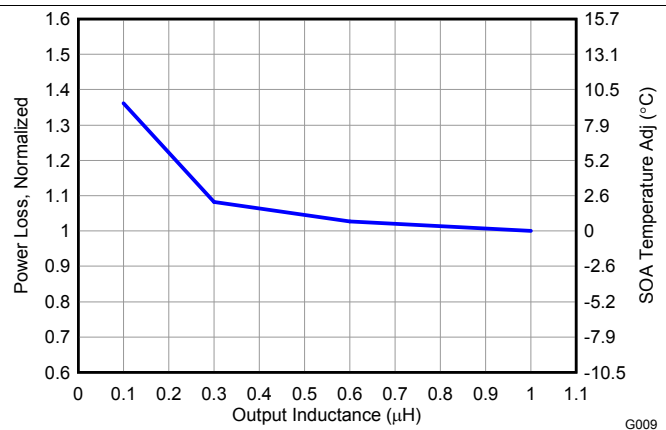

Figure 9. Normalized Power Loss vs Output Inductance
- Normalized Power Loss for output inductor ≈ 1.06 (Figure 9)
- SOA adjustment for output inductor $\approx 1.5^\circ\text{C}$ (Figure 9)